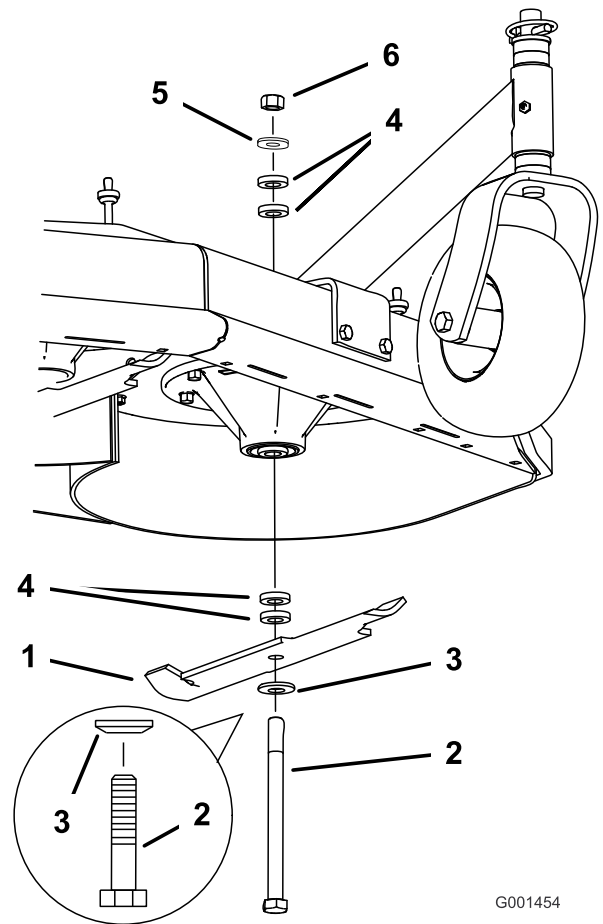

Figure 12
3. Hold the blade bolt and remove the nut (Figure 12).
4. Remove the blade bolt from the spindle and change the spacers as needed (Figure 12).
5. Install the blade bolt, curved washer, and extra spacers, and secure them with a thin washer and a nut (Figure 12).